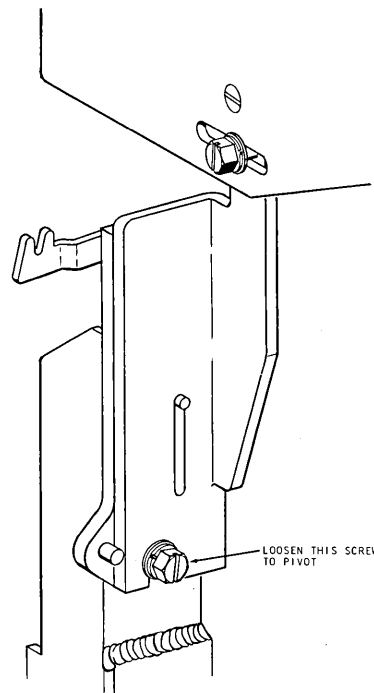

Figure 17. Control Key and Indicating Light Panel Bracket
1. Lower the control key and indicator light panel by loosening two holding screws and pivoting (Figure 17).
1. Loosen two screws securing control key and indicator light panel bracket to frame and pivot bracket. Lift and pivot panel out and down until panel bracket rests against stops (Figure 17).
1. Lower the key and indicator light panel. Remove the top and rear covers (Figure 17).